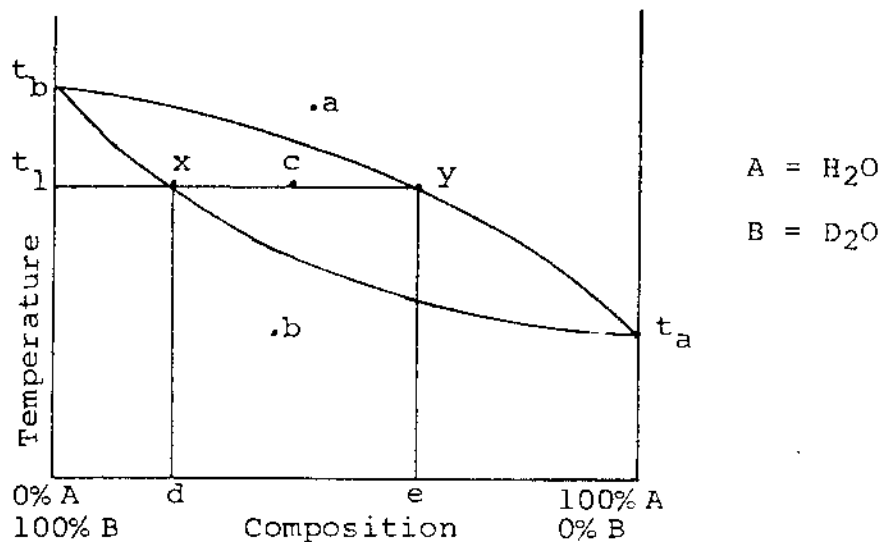

Figure 1
1. Given Figure 1 from the text; use it to verbally explain to the satisfaction of a colleague (or the course manager if requested) the effect of heating a mixture of D_2O/H_2O liquid to its boiling point and of cooling a mixture of D_2O/H_2O vapour to its condensation point.
For a two component system, eg, heavy water/light water, one is able to develop a diagram, see Figure 1 which represents boiling point versus liquid composition. The diagram also shows compositions of "first vapours" at the point of boiling.
Figure 1 represents the boiling point and equilibrium composition relationships, at constant pressure, of all mixtures of liquid A (boiling point t_a) and liquid B (boiling point t_b).
1. Explain Figure 1 in the text to a colleague in terms of: